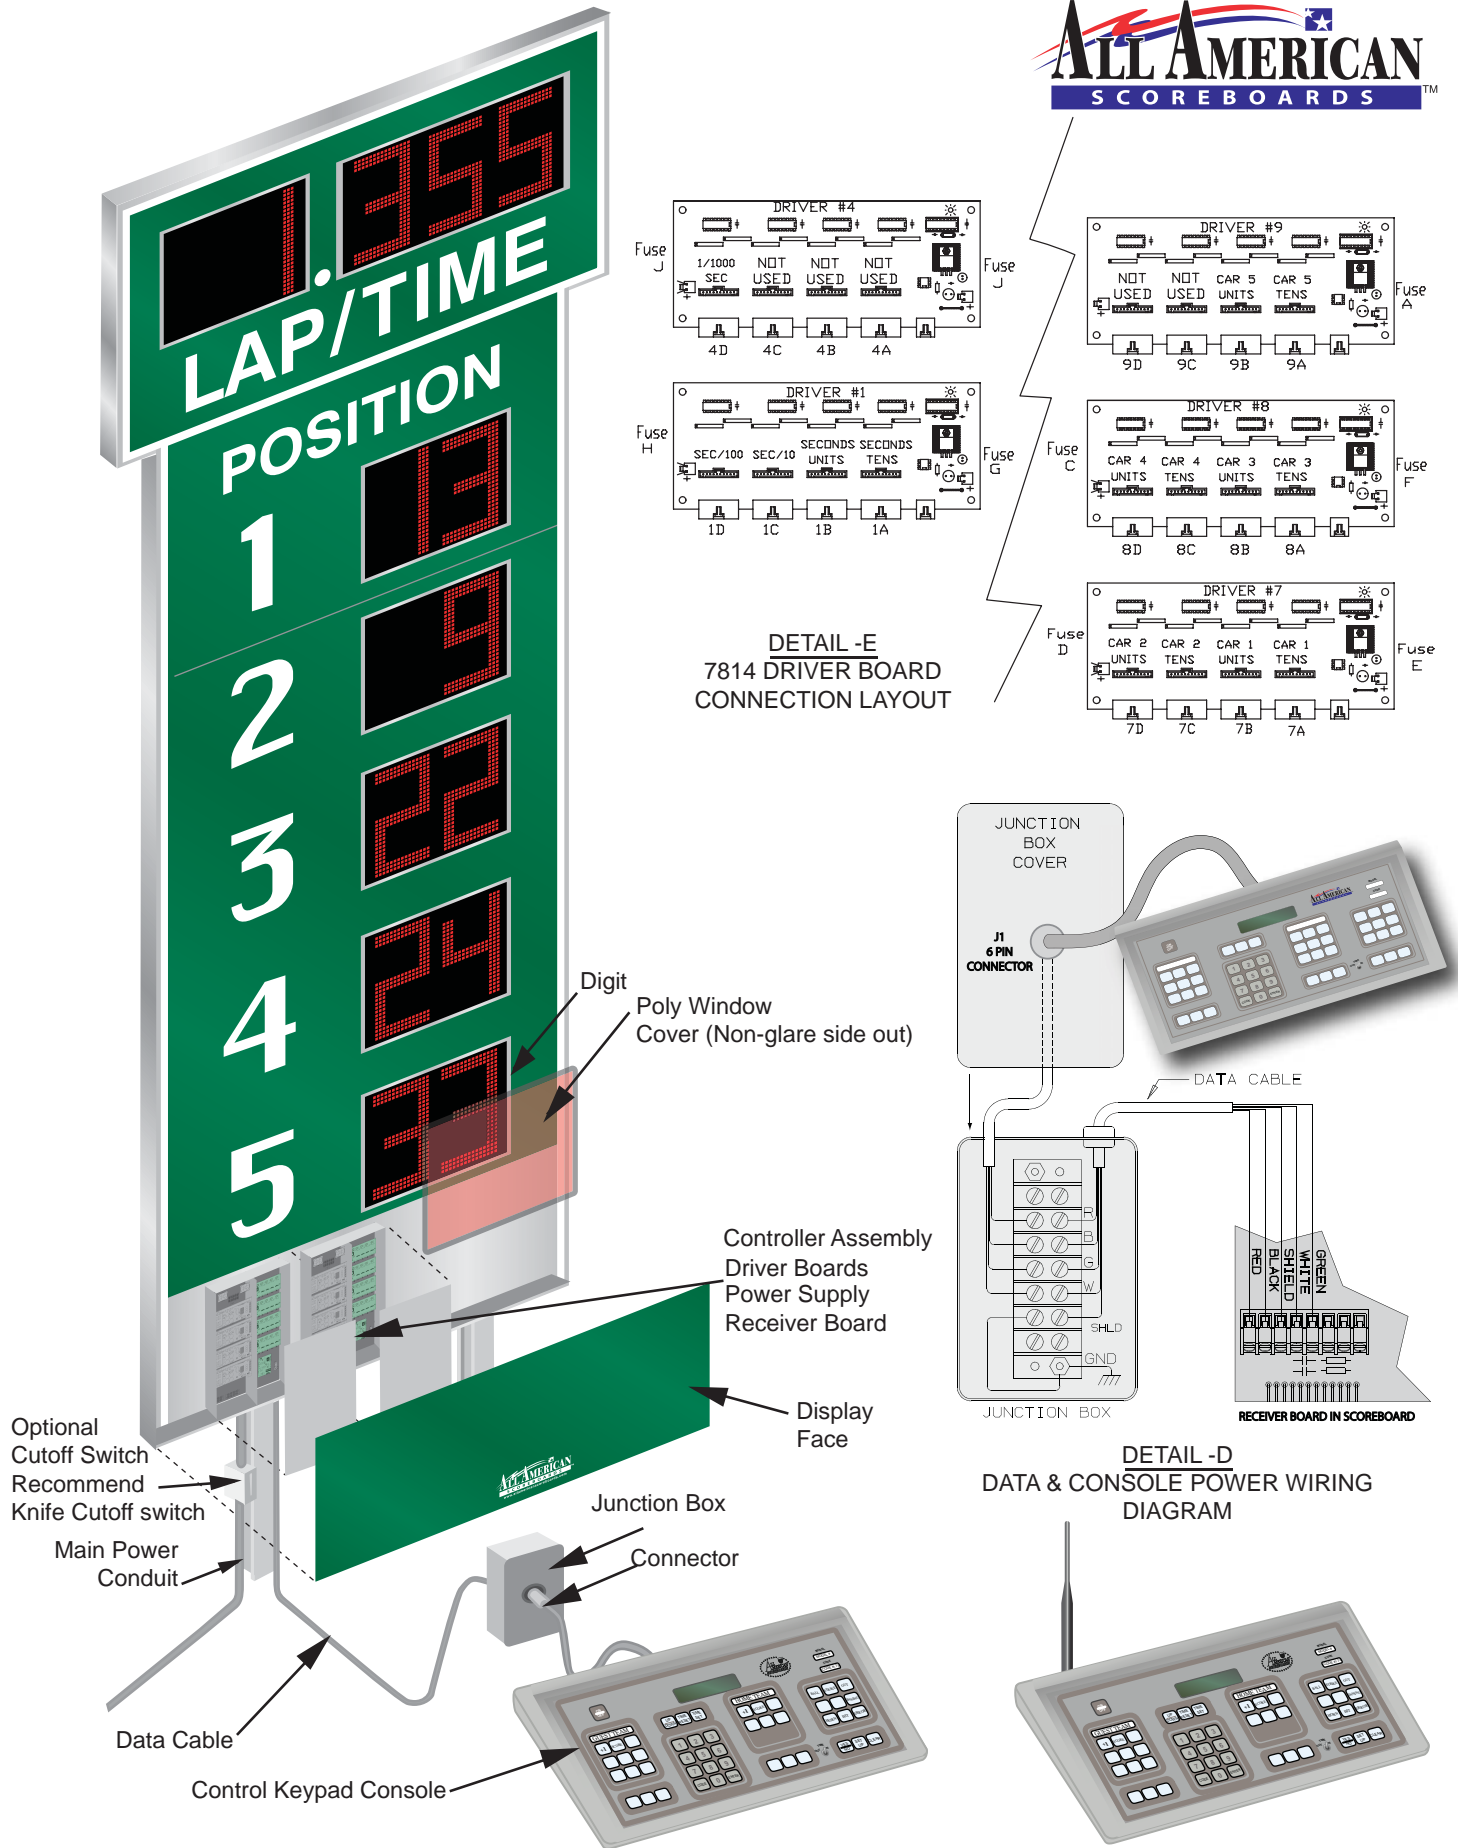

Figure 3: Typical Site Installation Hard-wire with Junction Box Shown.
Step 9: Remove the face exposing the controller assembly of the scoreboard unit (see Figure 3) by unscrewing the PH screws, top and sides, lift and remove the face, set aside for reinstallation. Connect to the driver boards in the Controller assembly according to the connector labels on the harness, (see Figure 3 Detail-E), be sure to use a drip loop and keep a 1/2" space from the bottom of the unit (see Figure 1).
Step 10: **HARD-WIRE ONLY.** Install the Junction Box at chosen location (i.e. press box or dug-out) and hook-up Power/Data Cable to terminal block (see Figure 3 Detail-D).
Step 13: **HARD-WIRE ONLY.** Install the cable conduit onto the beam and run the data cable from the junction box through the conduit to the sign (see Figure 3). Remove the Controller Assembly cover and attach the console power and data cable to the Receiver Board.